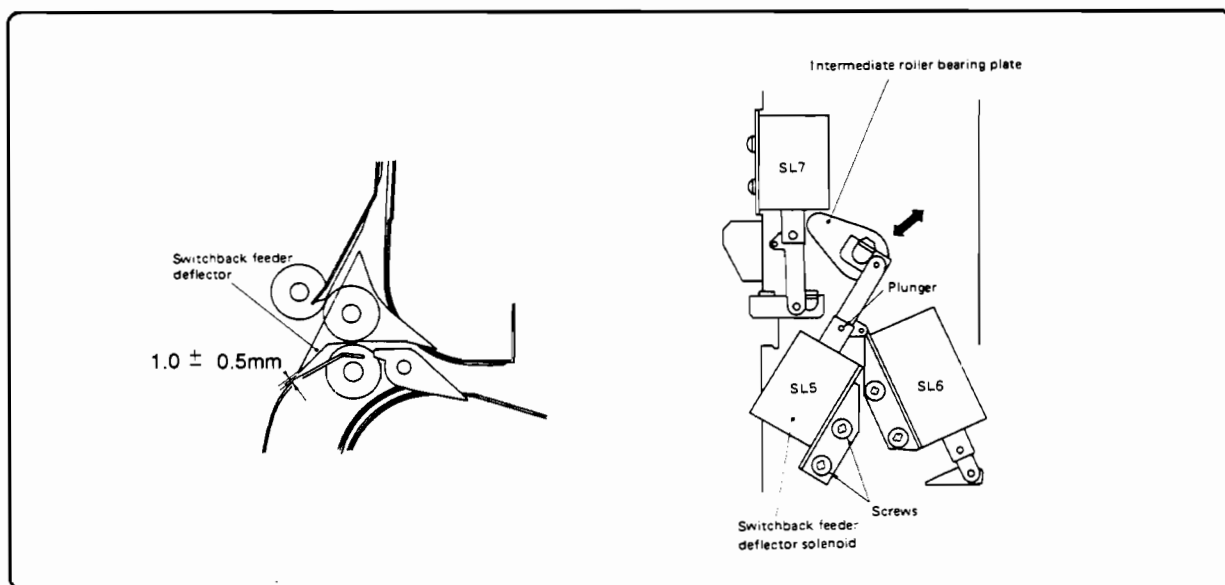

Figure 7-47. Deflector Front/Rear View
2. Loosen the solenoid mounting screws and adjust the mounting plate as necessary (Figure 7-47).
Verify that intermediate roller bearing plate in Figure 7-47 does not move in the direction indicated by the arrows when the plunger of solenoid SL5 is pushed in by hand.